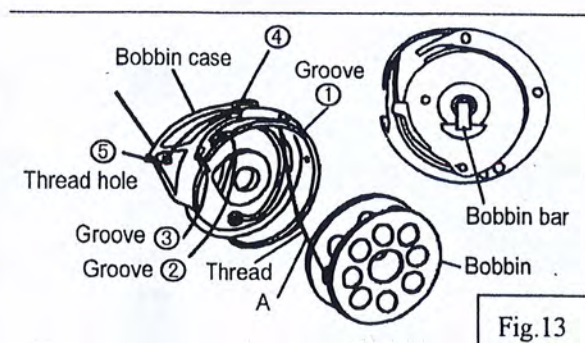

Fig.13
**6) Setting bobbin (Fig.13):**